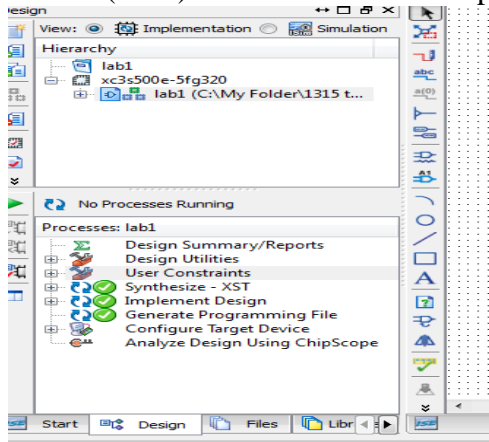

Figure 3: User Constraints
Step 9: You will now generate the binary file and use it to program the FPGA board. Navigate to and expand the User Constraints option in the Design Tab (seen in figure 3). Double click on the **I/O Pin Planning (PlanAhead)-Pre-Synthesis** item. A window indicating a User Constraint File (UCF) must be created will appear. Click **yes**.